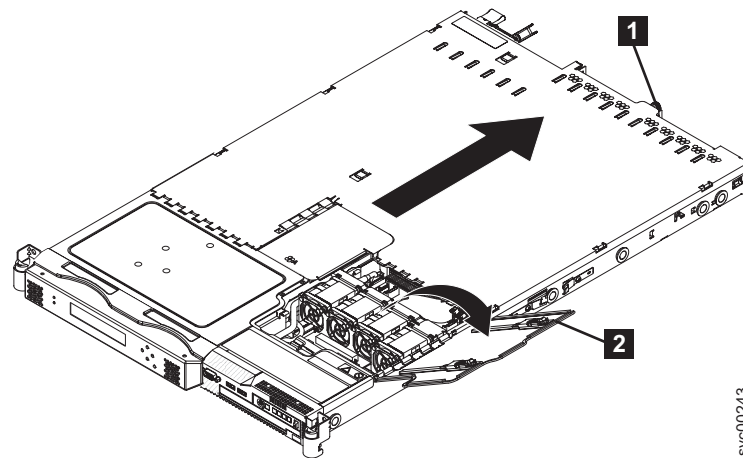

Figure 52. The SAN Volume Controller 2145-8G4 with fan door open
3. Loosen the thumbscrew (**1** in Figure 52) that secures the cover at the rear of the SAN Volume Controller 2145-8G4.